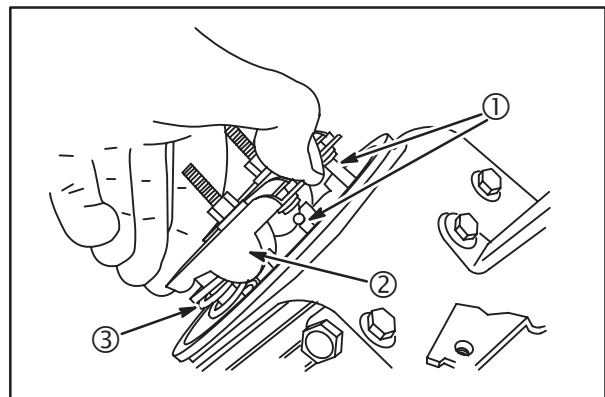

Fig. 23
1. Compress valve spring (3) with rocker arm (2) and insert push rod (1) into rocker arm socket, **Fig. 23**.